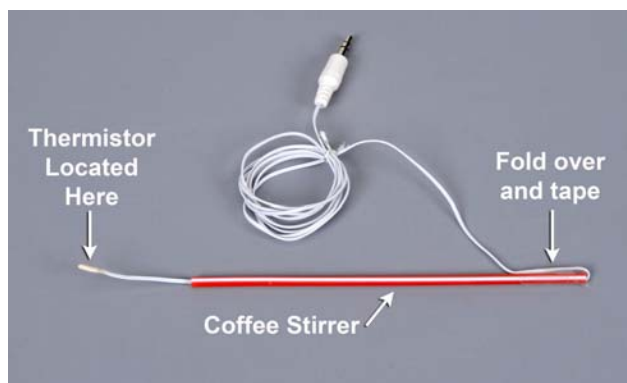

Figure 4: Preparation of Temperature Sensor
1. Prepare three flexible white thermistors by inserting each one through a coffee stirrer and taping them as shown in Figure 4. You can use any plastic or wooden rod and tape the thermistor to the side of the rod, without taping over the end of the thermistor.